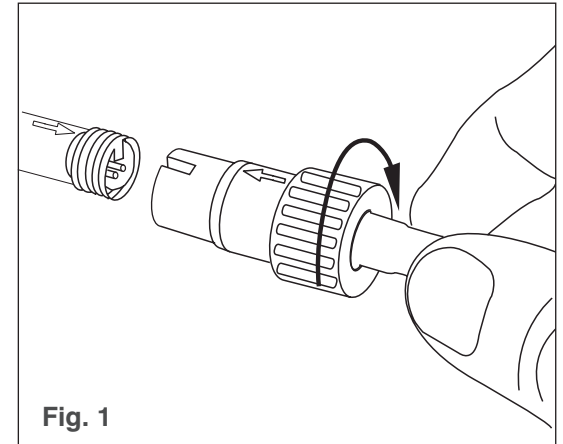

Fig. 1
- Connect each light fitting to the 4 way connector ensuring correct polarity is observed by aligning arrows and lug and slot on connector and tightening the threaded collar. See Fig. 1.